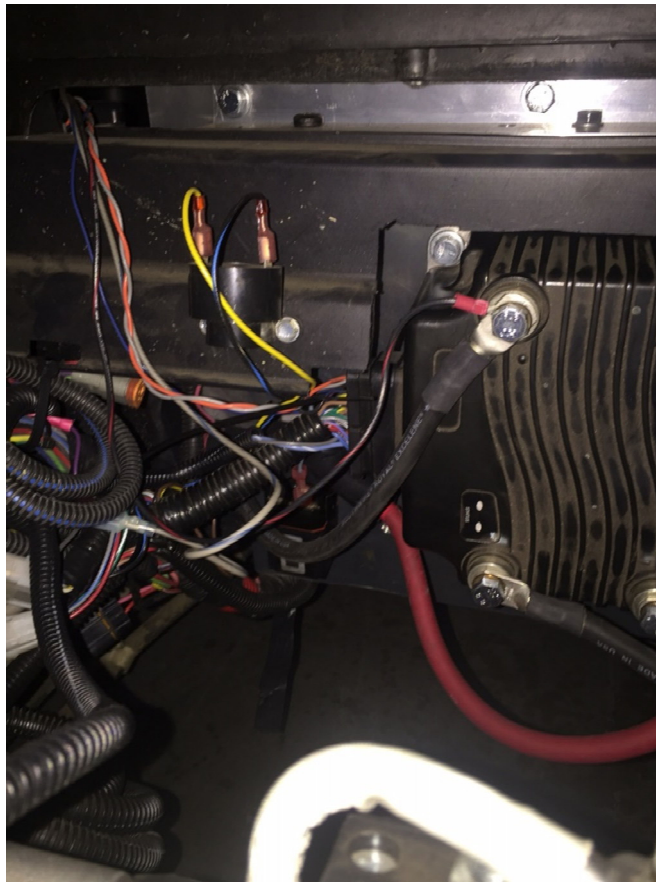

Fig. 3- Connect pack negative to B- on the motor controller
3. Remove the electrical tape off of the pack negative (B- cable) and install the lug onto the B- terminal located on the controller. (Fig. 3)